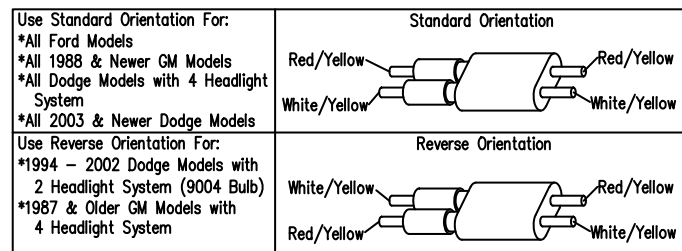

Figure 2. Vehicle Option Connector G10202
13. Locate vehicle option connector. Align the connector so that the wire colors are positioned in the standard orientation. This is illustrated in Figure 2.